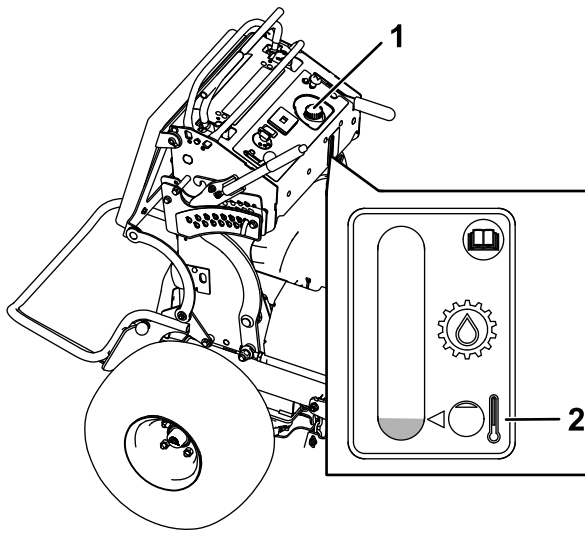

Figure 69
4. Clean the area around the cap and the filler neck of the hydraulic tank (Figure 69).
5. Remove the cap from the filler neck (Figure 69).